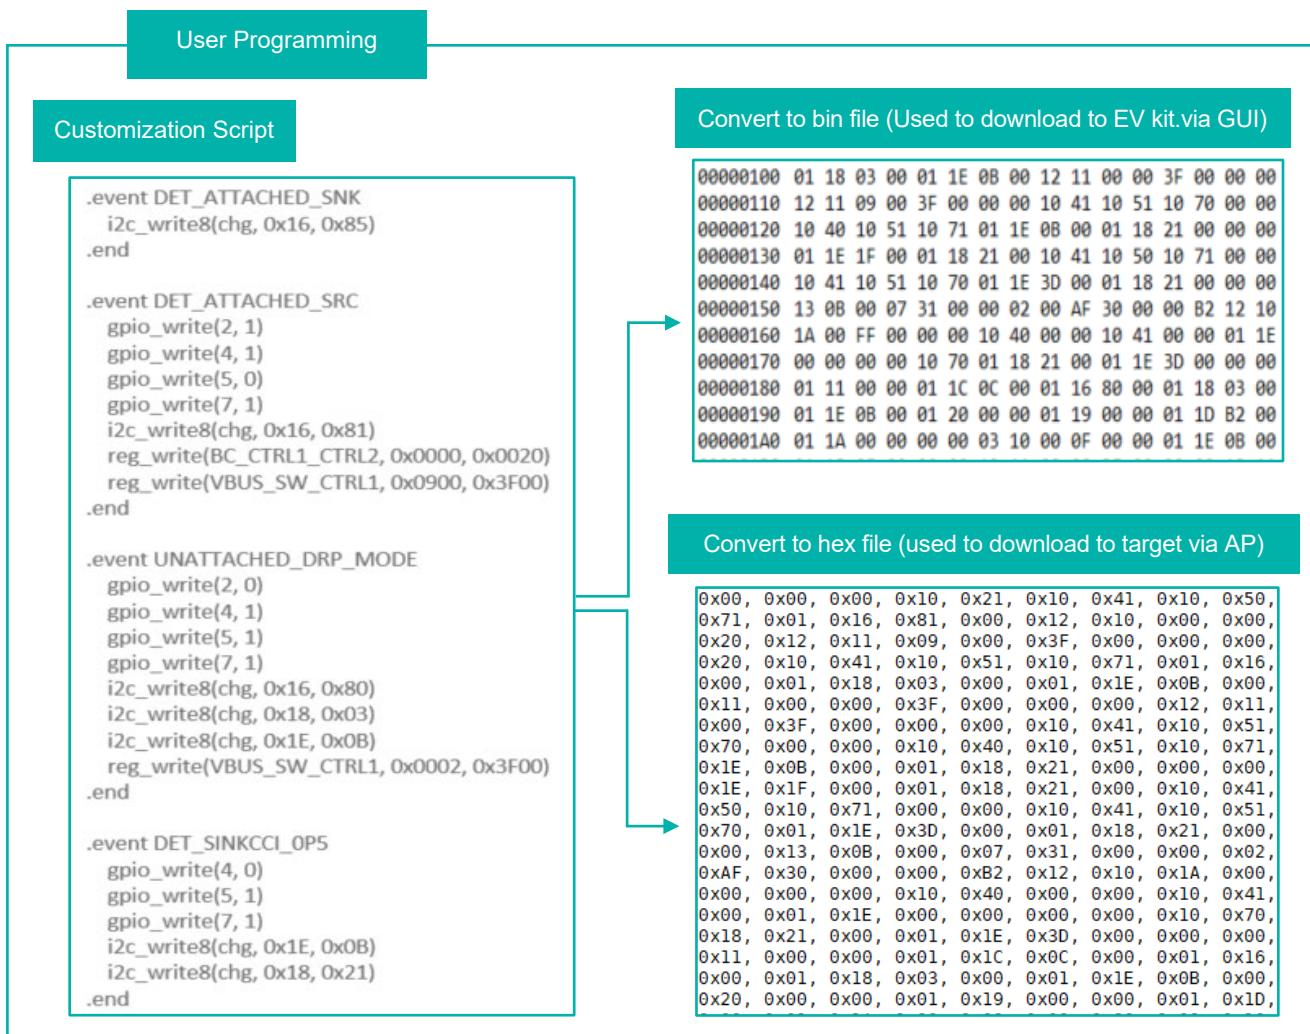

Figure 1. User Programming of Customization Script
**Figure 1** shows the simple implementation of the customization script. Developers can define the functions and the sequences for each Event ID listed on the Event Item List using the MAX77958 GUI. The GUI provides users not only the interface to create the customized code but also the functionality to detect syntax errors in the script usage.